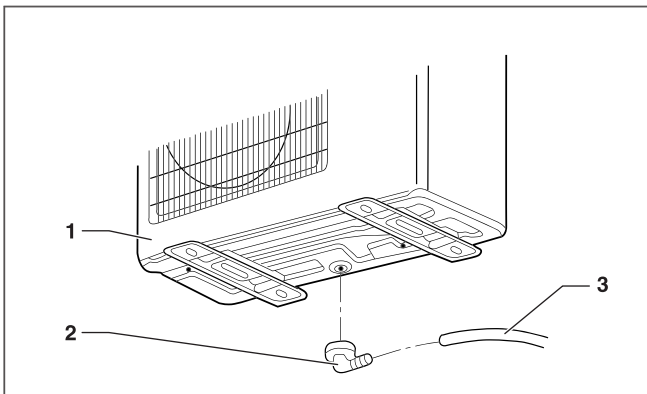

Fig. 10.1 Assembly of the drainage elbow for condensed water
- Insert the elbow included in the supply in the hole provided at the bottom of the outdoor unit and turn it 90° to fix it (see Figure 10.1).